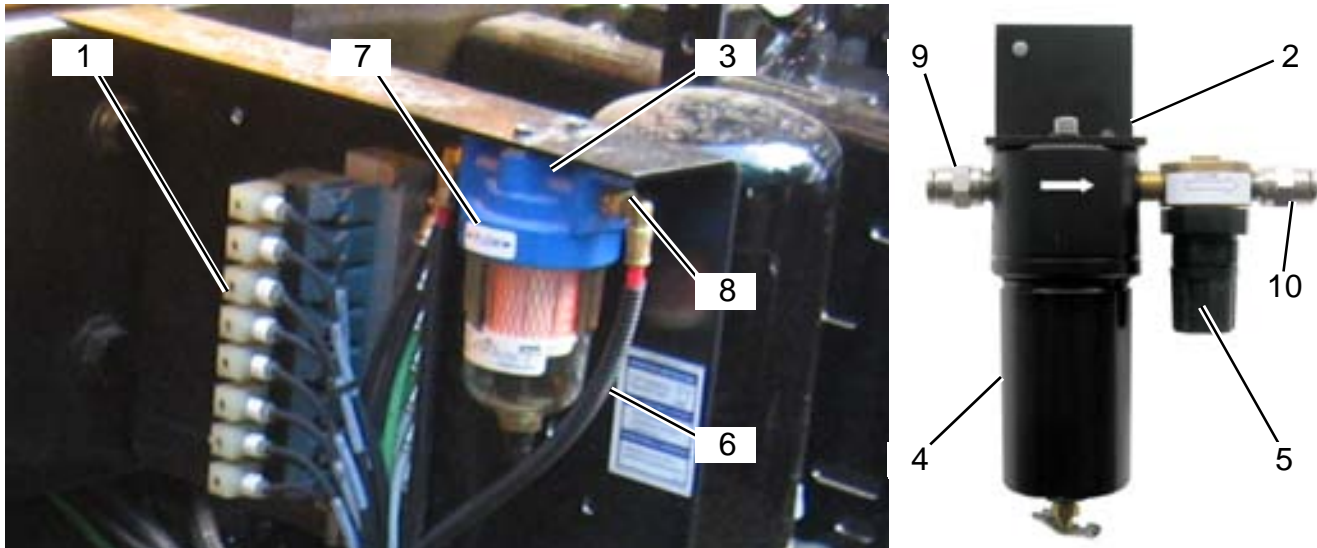

Figure 22
The Packer air system must be clean and properly maintained for the AutoReach Soft-Stop System to provide repeatable operation. The air supply for the joystick is controlled from the MAC valve bank (**Figure 22, 1**). An air supply assembly (**Figure 22, 2**) is provided for installation between the air filter (**Figure 22, 3**) and MAC valve stack on the Packer. The air supply assembly includes a water separator (**Figure 22, 4**) and air regulator (**Figure 22, 5**). The air regulator is preset to limit the air supply pressure to the Soft-Stop System between 87-95 psi.
- Identify the air line (**Figure 22, 6**) between the air filter and MAC solenoid valve stack. The air filter should have an arrow (**Figure 22, 7**) on the air filter to identify the direction of air flow.
- Make connection between air filter outlet (**Figure 22, 8**) and the "IN" port (**Figure 22, 9**) on the water separator.
- Make a second connection between the air regulator outlet (**Figure 22, 10**) and the MAC solenoid valve stack.